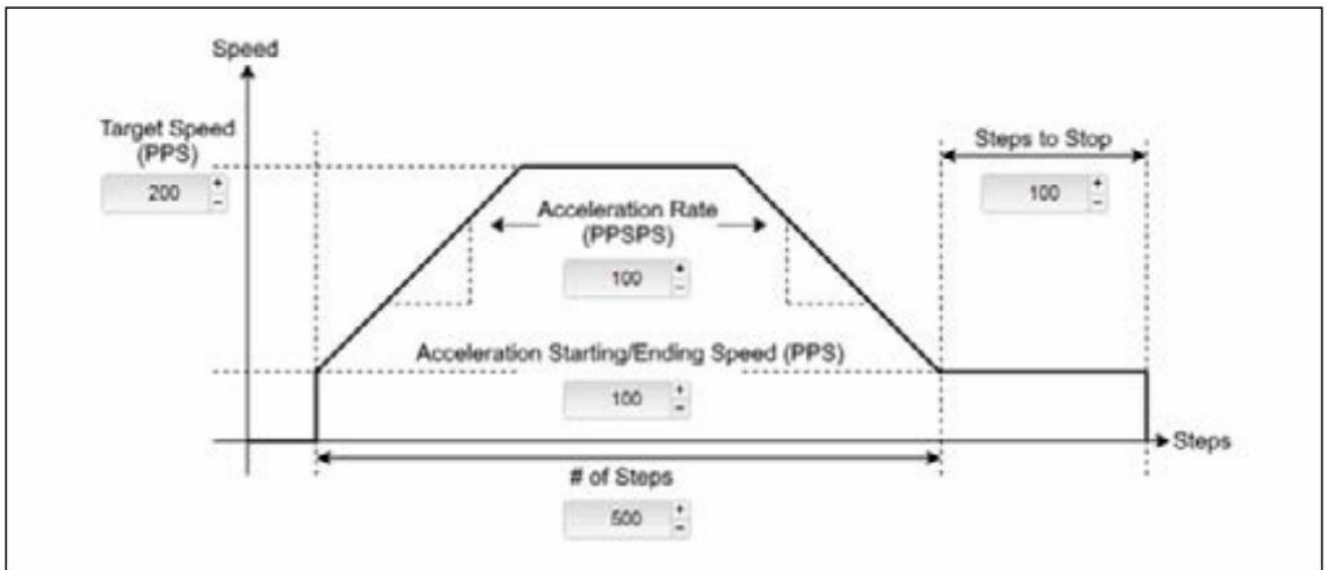

Figure 5. Motor-Control Graph
- The Motor Control Graph group box allows the user to configure the speed and acceleration of the stepper motor (Figure 5).